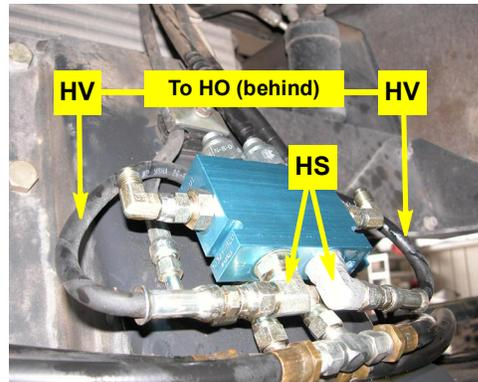

Figure 6c: Short steering hoses installed between run-tees HO (not visible) and 'C' ports of counterbalance valve.
- c. Connect one end of each short steering hose **HV** to the open 'T' end of each run-tee **HO** and the other end to fittings **HS** in the 'C' ports of the counterbalance valve **HP** (Figure 6c).